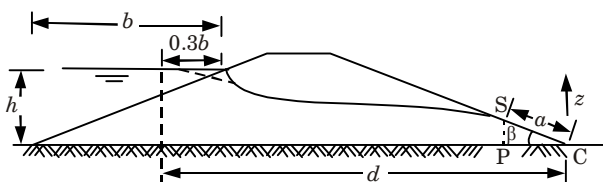

Fig. 2.20.1
1. If the angle β is less than 30° (Fig. 2.20.1) point S at where the seepage line becomes tangential to downstream face can be obtained using Schaffernack's method.